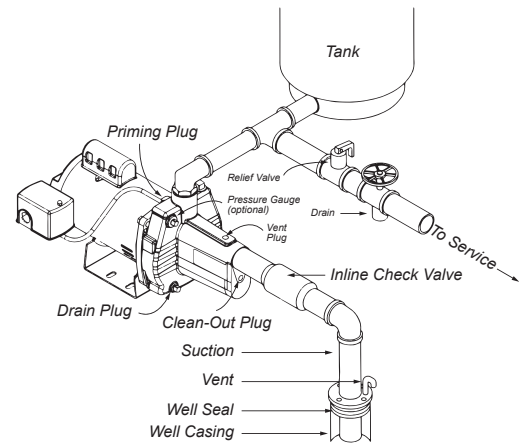

FIG. 2B SHALLOW WELL (WITH INLINE CHECK VALVE)
- Suction Pipe:** It is recommended that only new, clean 1-1/4 inch pipe or hose be used. If the pump is installed any appreciable distance away from the source of water, the suction pipe should be increased to 1-1/2 inches. Horizontal lengths of pipe must gradually slope upwards from the source of water to the pump to avoid air pockets in the line. Thread compound should be used on all pipe joints and connections should be thoroughly tightened. A foot valve must be installed and its operation should be checked since a leak will prevent proper operation of the system. Make sure the foot valve is located so that it will be submerged at all times. If a sandpoint or driven well is used, install a check valve next to the pump suction instead of the foot valve (Fig. 2b). All installations must have a foot valve or a check valve in the suction pipe.